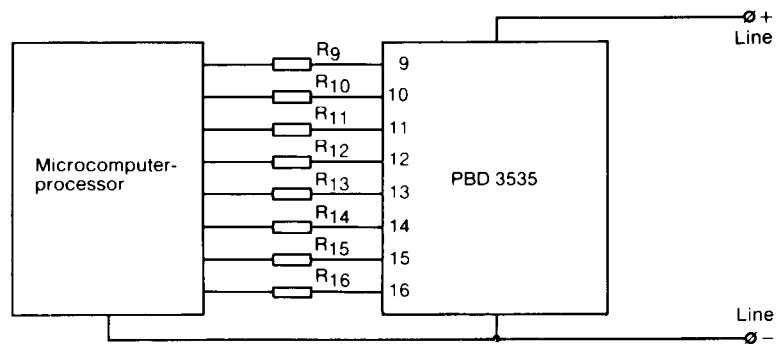

Figure 16. Microcomputer interface
PBD 3535 can also be controlled by a microprocessor (see fig 16). The negative branch of the microprocessor voltage supply is connected to pin 7 of PBD 3535 and the inputs (8) are connected with resistors. For tone-generating one input of the low group (pins 13–16) is high and one input of the high group (pins 9–12) is low. When an input of the high group (pins 9–12) is low, PBD 3535 is activated and the mute output is put in high state.